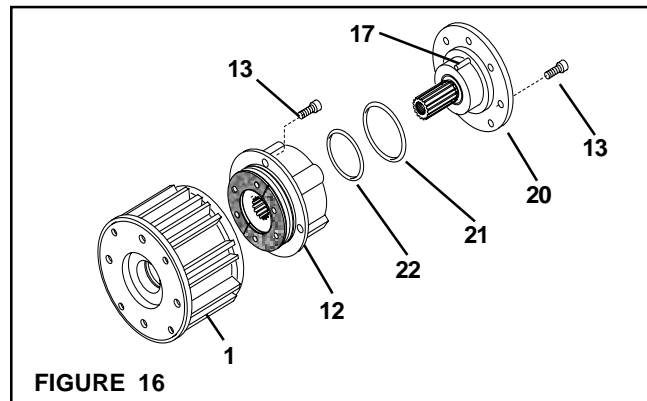

FIGURE 16
23. Lubricate the new O-ring Seals (Items 21 and 22) and the contact surfaces on the Male Pilot (Item 20) and Air Chamber (Item 12) with a thin film of fresh o-ring lubricant (See Figure 16).
24. Install the new O-ring Seals (Items 21 and 22) (See Figure 16).
25. Align the Spring Pin (Item 17) on the Male Pilot (Item 20) with the hole in the Piston (Item 16) and slide the Male Pilot into the Piston and Housing (Item 1) (See Figure 16).
26. Apply a drop of Loctite® 242 to the threads of four Socket Head Cap Screws (Item 13) and secure the Male Pilot (Item 20) to the Air Chamber (Item 12) (See Figure 16).
28. Apply a drop of Loctite® 242 to the threads of four Socket Head Cap Screws (Item 13) and secure the Male Pilot (Item 20) and Air Chamber (Item 12) to the Housing (Item 1) (See Figure 16).